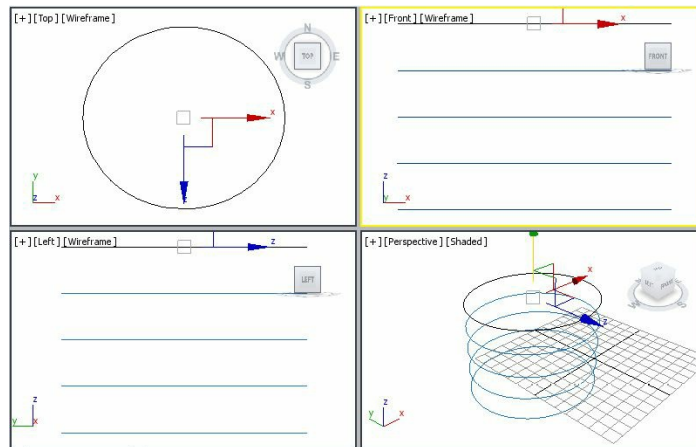

Figure 10-86 The circular NURBS curves displayed in viewports
8. Choose the **Zoom Extents All** tool; the circular NURBS curves are displayed in the viewports, as shown in Figure 10-86.